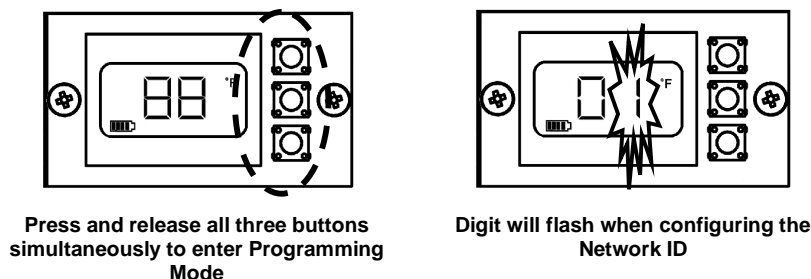

Figure 8. Configuring the Network ID
1. Press and release all three buttons simultaneously to enter Programming Mode. The RWAL will display the current or default network ID and the first digit starts flashing (see Figure 8).